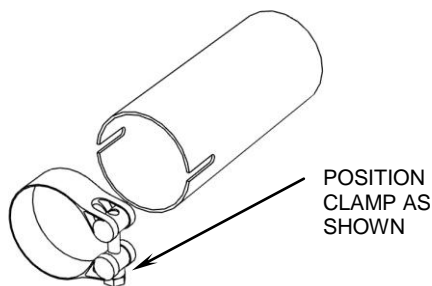

FIGURE 2
- Place the supplied 27-61msc clamp onto the lower muffler slip collar then slide the rear headpipe / muffler assembly onto the front headpipe and into the rear exhaust port. Bolt rear headpipe to the rear cylinder using the stock acorn nuts from Step 1. See Figure 2 for clamp orientation.
- To install the front heatshield, first slide the rear portion of the heatshield over the muffler, continue to slowly slide it forward pushing the front of the shield gently into place between the frame and motor (Hint: Spread the hose clamps apart slightly to make it easier to slide them over the muffler assembly and headpipes). Make sure the muffler clamp doesn't interfere with the heatshields and is aligned as shown in Figure 2. Snug the heatshield clamps but **DO NOT TIGHTEN.**